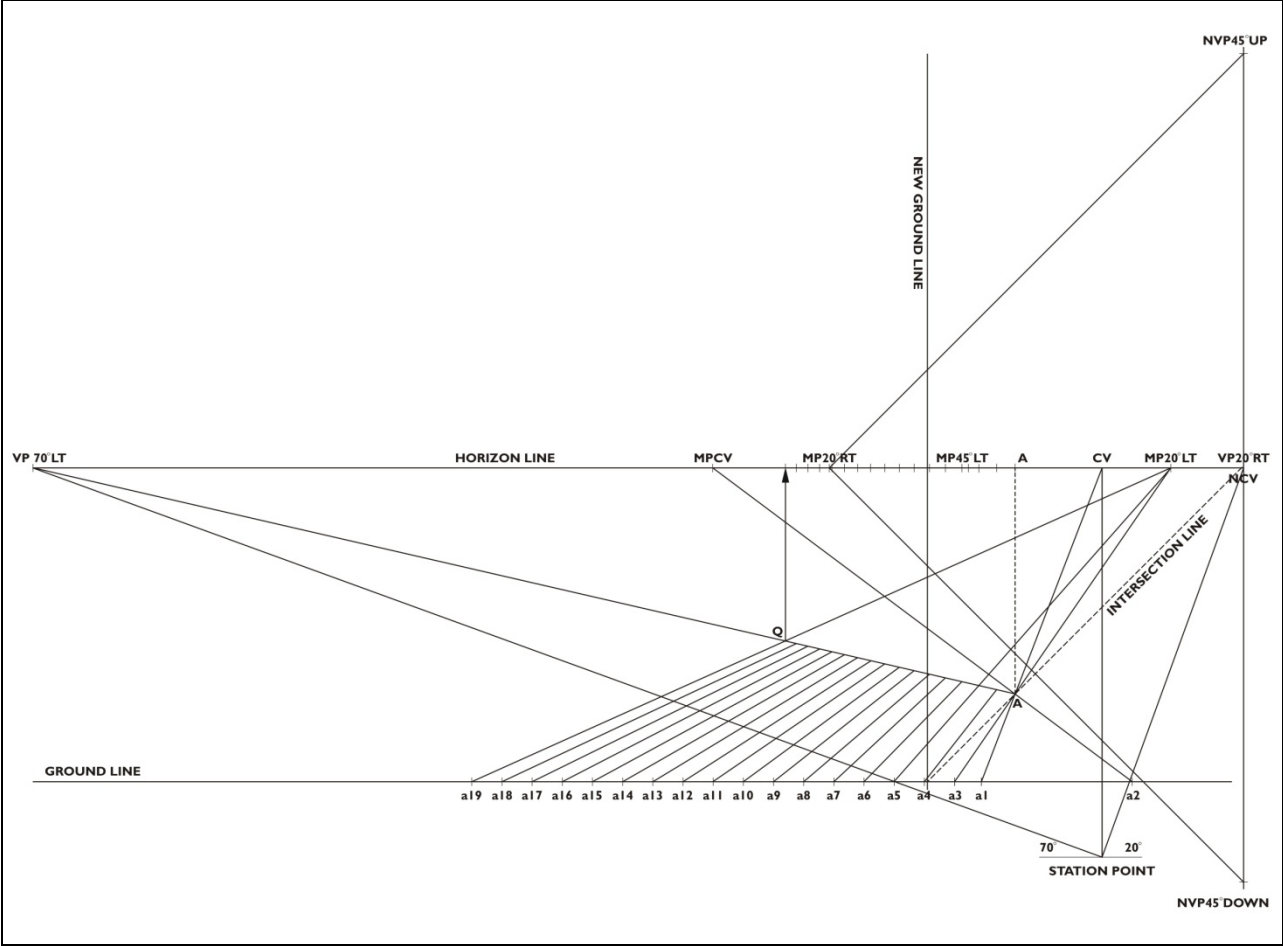

Figure 5.12 Construction of Three-Point Perspective Grid
- 1. Where the line intersects the original GL, project a vertical line to establish the New GL. Refer to Figure 5.12.